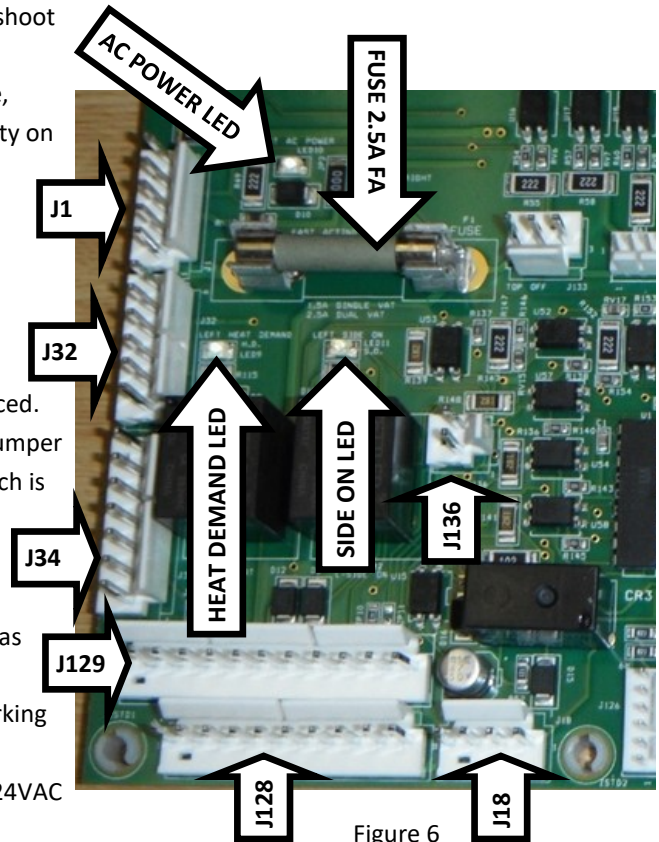

Figure 6
1. **Auto Filter Board Heat Circuit: Refer to Figure 6. Verify the auto filter board has DC voltage by checking for the flashing green led (LED7). If the LED is not flashing, then no DC power is present.**